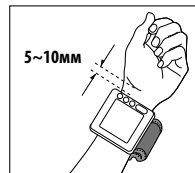

Fig.4
- 2 The monitor should be placed at the center of your wrist with the top of the monitor positioned 5 to 10 mm from the bottom of your palm (fig.4).